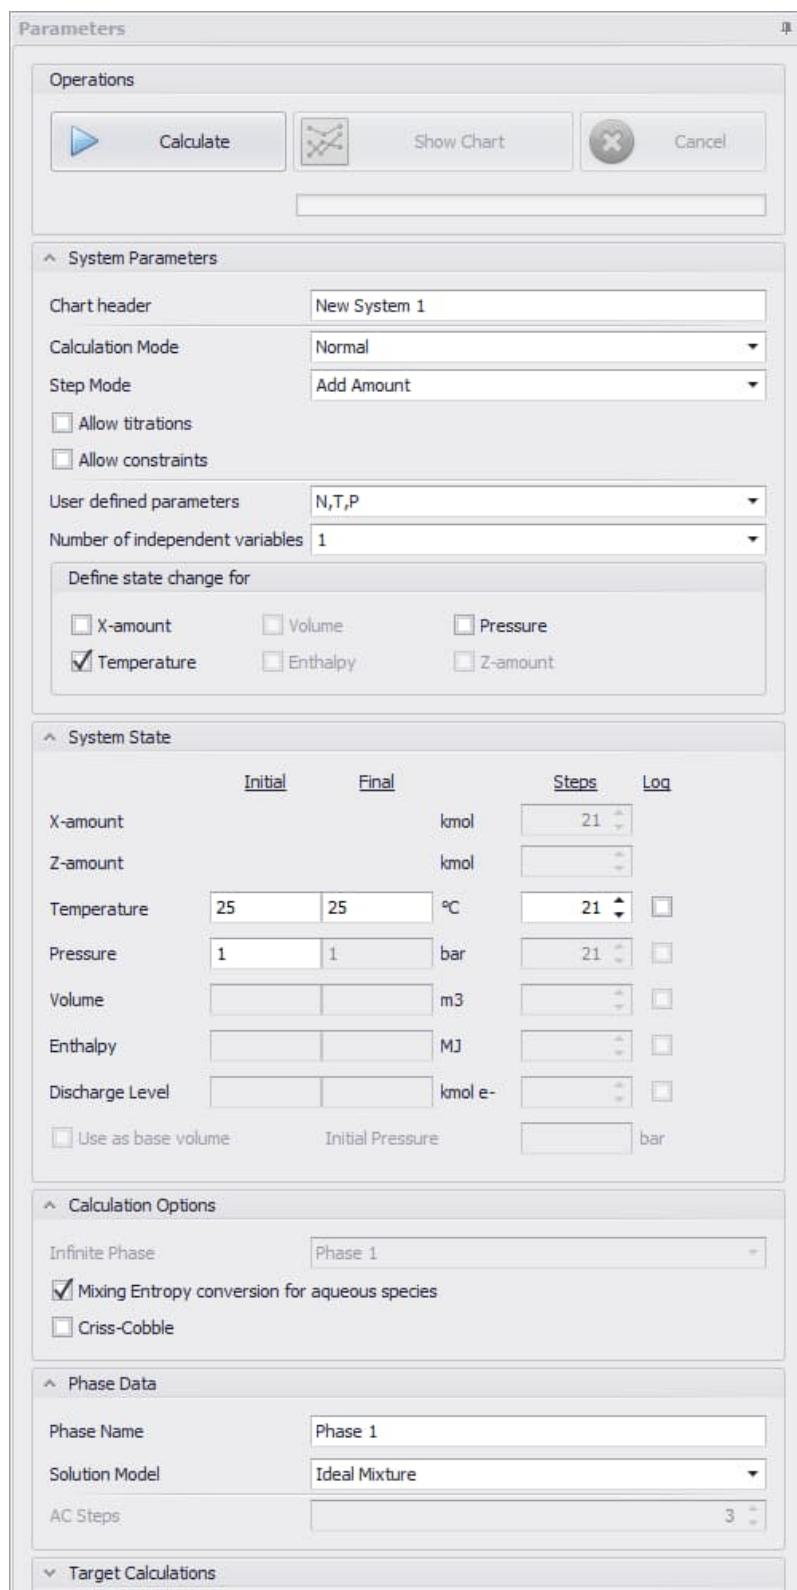

Fig. 6. Specifying calculation parameters.
The calculation data is specified using the Parameters panel, **Fig. 6**. User gives all the data required to create an input file for the equilibrium solvers and for calculating the equilibrium compositions in the **Species and Parameters panel** sheets, see **Fig. 5** and **Fig. 6**.
2. The phase temperature can also be changed directly in the cell and will change the temperatures of all the species within the phase. Note that phase and species temperatures have effect only on the reaction enthalpy balances. Equilibrium temperatures must be specified in the Parameters panel, see **Fig. 6**.
If user expects pure substances (invariant phases) to exist in the equilibrium configuration, insert them as their own phases by giving them their own phase rows or insert all these species in one phase and select the Solution model **Pure Substance** option on the Parameters panel, see **Fig. 6**. Formation of pure substances is possible, especially in the solid state at low temperatures. For example, carbon **C**, iron sulfide FeS_2 , calcium carbonate CaCO_3 , etc. might form their own pure phases.
Input temperatures for the raw material species are essential only in the equilibrium heat balance calculations, i.e. if user provides some input amount for a species user should also give its temperature. The input temperature does not affect the equilibrium composition. User can select the temperature unit by selecting °C or K from the Units menu. Equilibrium temperatures must be specified in the **Parameters panel**, see **Fig. 6**.
Instead of manually entering the activity coefficient, it is also possible to use pre-defined activity models. For example, to calculate the activity coefficients with the Pitzer model using the Aqua module, please select “Aqua” in the solution model drop-down list when aqueous phase is selected, see **Fig. 6**. For more information, see sections 13.4.5, 13.10 and Chapter 36.
User may add any kind of heading for the input file, see **Fig. 6**. The maximum number of characters allowed in the heading is 80. The program automatically adds the heading to the diagrams, see **Fig. 16**.
If user has defined increments (steps) for raw material species or a specified range for selected parameters then user should also give the **Number of Steps** required, see **Fig. 6**. Usually 21 - 51 steps give quite smooth curves in the equilibrium diagram. A large number will only add more points to the diagram and involve a longer calculation time. It is now also possible to add steps using log mode for each parameter. This is especially useful when stepping from low to high pressures.
All species in the phase can be set to be pure substances with the **Pure Substance** option, see **Fig. 5** and **Fig. 6**.